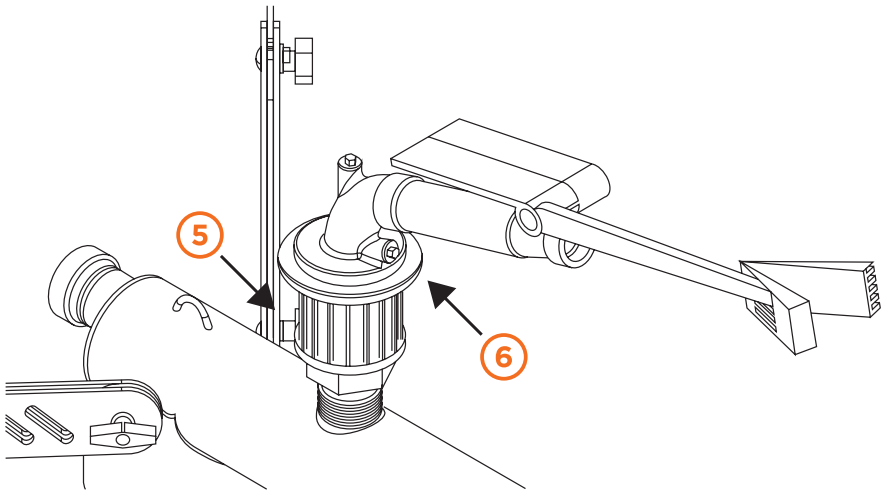

Figure 4.
- Position the stays **5** on the back of the sprinkler head **6** to control the arc of travel of the sprinkler head **6**, *Figure 4*.